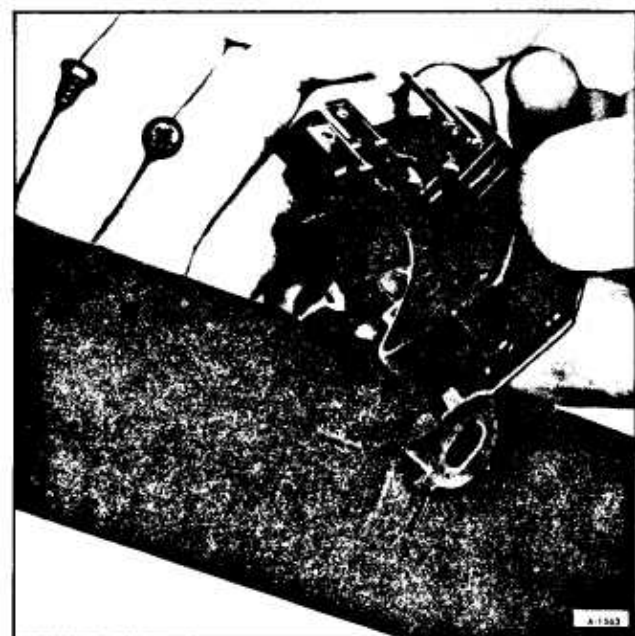

Figure 81—Removing Neutral Start Switch
2. Remove the two screws holding the neutral-start switch and remove switch. (figure 81).
4. Install the neutral-start switch, making certain the proper screws are used. (figure 81). (15 in-lbs)